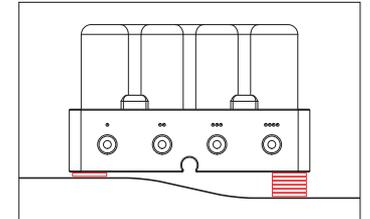

Abb. 6: Compensation mounting surface
3. Mount the valve block using the mounting kit provided. If the mounting surface is not flat, add shims or a spacer to level the surface (Fig. 6). In this case, additional mounting material may need to be purchased.